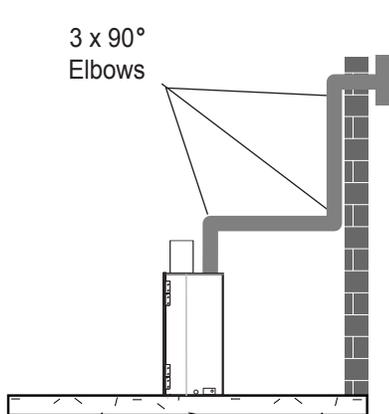

Figure 18 - Maximum Three (3) 90 Elbows Per Installation
The maximum number of 90° elbows per side wall installation is three (3), the maximum horizontal run is 20" (Figures 18, 19).